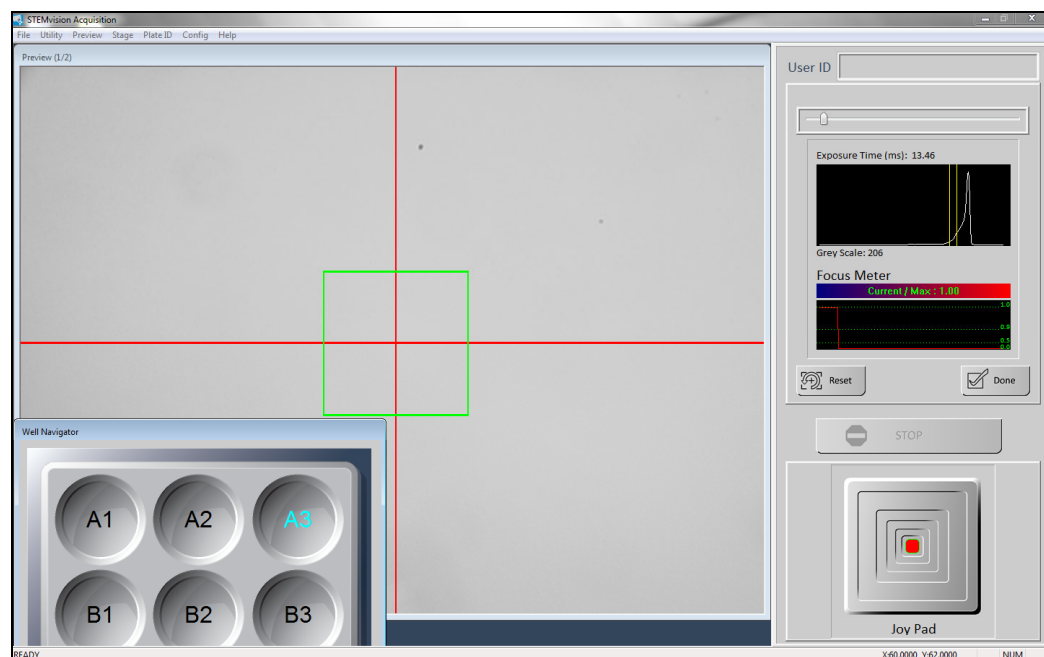

Figure 7. Setting the Illumination in the “Set Focus & Illumination” Dialog Box of the STEMvision™ Acquisition Application
- i. Use the Joy Pad to find a location in the well that contains a mostly clear background devoid of any dense colonies (few or no colonies should be seen in the Preview Window) as shown in Figure 7. If an area with no colonies cannot be found, use the Joy Pad to find a location in the well that does not contain any large colonies or dark shadow areas (i.e. primarily medium should be seen in the Preview Window).